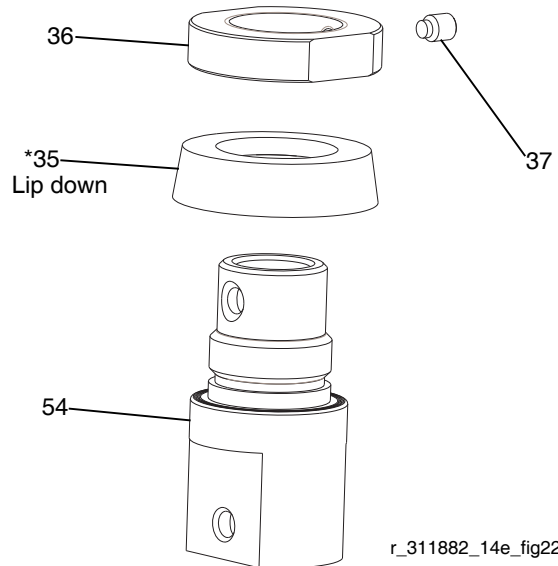

FIG. 22
11. Loosen set screw (37) from collar (36). Remove collar from piston housing (54). Remove u-cup (35*). Inspect all parts for damage. See FIG. 22.